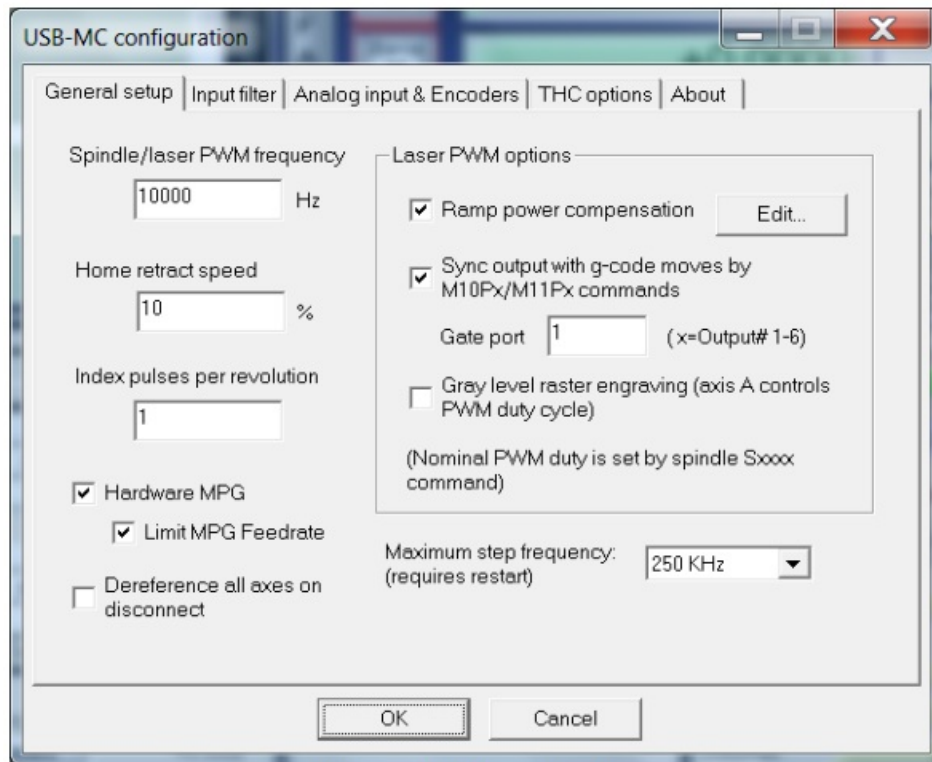

Figure 5.1 General setup
USB-MC-INT motion controller uses the same configuration dialog as the USB-MC motion controller. This dialog can be opened using the menu option Plugin Control/USB-MC Config... (Figure 5.1).
General setup tab (Figure 5.1)
The frequency of the PWM output signal that is used for spindle rpm control or laser power control, can be adjusted in the range of 10 Hz – 200000 Hz (Figure 5.1). The output pin for this purpose is selected via the Spindle axis line in the Motor Outputs window (Figure 4.1). Only adjustments for the Step signal are used (pin/low act/port), and the Dir field is not used for PWM output.
This is the speed of retraction from a home switch given as a percentage of homing speed (Figure 5.1). In the first phase of the homing (referencing) operation for an axis, movement toward the home switch is performed until the switch is activated. Then, movement is performed in the opposite direction (retracting) until the switch deactivates and that position is used as a reference. Home retract speed should be low enough so that good referencing precision is achieved.
Index input is used for detection of spindle rotational speed. It is common to use one pulse per revolution, but more than one can also be used (Figure 5.1).
This option should be turned on if it is desired to dereference all axes in case of an error or a break of connection with the controller (Figure 5.1).
- Enables setting the maximum frequency of the generated step signals (Figure 5.1). Lower speed (125 kHz, 4µs pulse width) is used in case drivers/controllers that are being controlled are not fast enough for impulse width of 2 µs that is required when using full speed (250 kHz).
- If this option is turned on (Figure 5.1) USB-MC-INT motion controller will use hardware MPG mode, that is, reading MPG inputs and generation of STEP/DIR output signals is done completely in hardware without the need for communication with the PC.
If this option is turned on (Figure 5.1), speed limit given with the parameter MPG Feedrate is obeyed in hardware MPG mode. This parameter is located on the MPG/Jog window (Figure 6.1).
Laser power compensation (Figure 5.1) is used to overcome typical problems during laser engraving, and that is the depth/intensity of engraving depends on the movement speed of the laser head. This is particularly visible at the start and at the end of one engraving segment, where the laser head slows down and stops, so unwanted black dots appear. To eliminate this phenomenon, laser power can be controlled using PWM so that the PWM duty cycle is directly dependent on the velocity of the laser head. Thus, for example, if velocity is zero, the PWM duty cycle will also be zero. As velocity increases, the duty cycle that controls the laser power is also increased. It is possible to configure an arbitrary relation curve.
This option (Figure 5.1) enables fast commands M10px and M11px, in addition to their primary function of setting the state on output x (Output#1-6), at the same time can turn on/off PWM output. The gate port determines which output x controls PWM output in this way. So, for example, if command M11p3 is given and gate port=3, PWM output will be turned on.
- This option is used for laser engraving of raster images and an 8-bit pallet is supported (256 shades of gray) (Figure 5.1). When this option is turned on A axis is used to control laser power i.e. given “movement” of the A axis is directly translated to the duty cycle of PWM output.